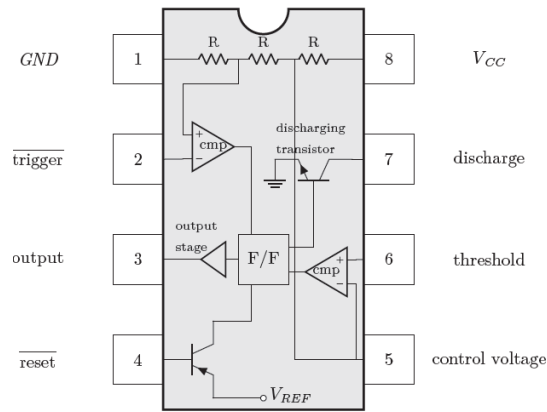
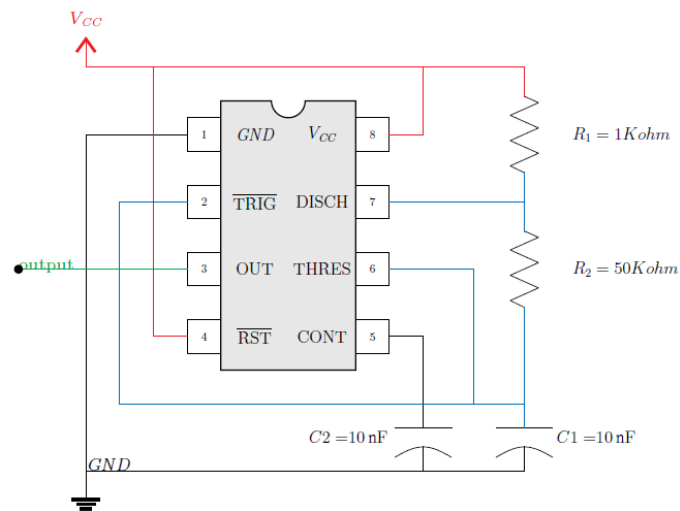

Figure 4. LM555 timer pin-out
Figure 5. LM555 in astable mode
LM555 is among the devices can be used for generating clock signal or time delays. The pin layout of this IC can be seen in figure 4.
This IC operates in three modes: Monostable, Bistable and Astable. The astable mode that we use in this experiment allows the timer to operate as an oscillator that outputs a continuous rectangular pulse of a required frequency. For astable operation, we need two resistors and one capacitor to design a circuit that operates at the frequency required. The timing during which the output is either high or low is determined by these externally connected resistors and capacitors. Note that the durations of the low and high states may be different. Figure 5 illustrates an LM555 configuration for astable mode operation.
The external capacitor $C1$ charges through $R1 + R2$ and discharges through $R2$. Thus, the duty cycle and frequency may be precisely set by selecting the right combination of resistances and capacitance. According to figure 4 and figure 5, the charge time (output high) is given by $T1 = 0.693 * (R1 + R2) * C$ and the discharge time (output low) by $T2 = 0.693 * R2 * C$. Thus, the total time period of square wave is $T = T1 + T2 = 0.693 * (R1 + 2R2) * C$. Consequently, the frequency of oscillation is $\frac{1}{T}$. The duty cycle also can be computed by $\frac{R1+R2}{R1+2R2}$.
1. Implement the LM555 in astable mode using the wiring diagram from figure 4 and observe the output. Report the clock frequency and the duty cycle and include the waveform of the output in your report.